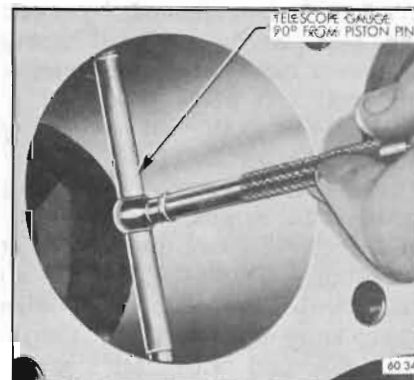

Figure 60-34—Checking Cylinder Bores
Before the honing or reboring operation is started, measure all new pistons with micrometer contacting at points exactly 90 degrees to piston pin (Figure 60-34) then select the smallest piston for the first fitting. The slight variation usually found between pistons in a set may provide for correction if the first piston has excessive clearance.
1. Expand a telescope gauge to fit the cylinder bore at right angles to the piston pin and between 1-1/2" and 2" from the top. See Figure 60-34.